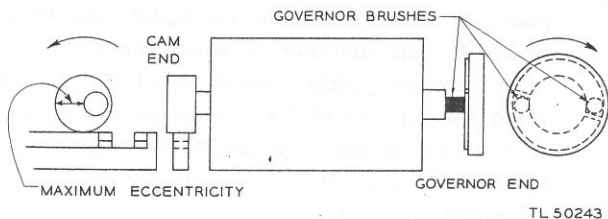

Figure 43—Relationship between cam and motor governor
b. Turn the shaft so that the cam is in its mid-position with respect to the cam switch (E202). This position must be determined accurately within about 5° of rotation (fig. 43).